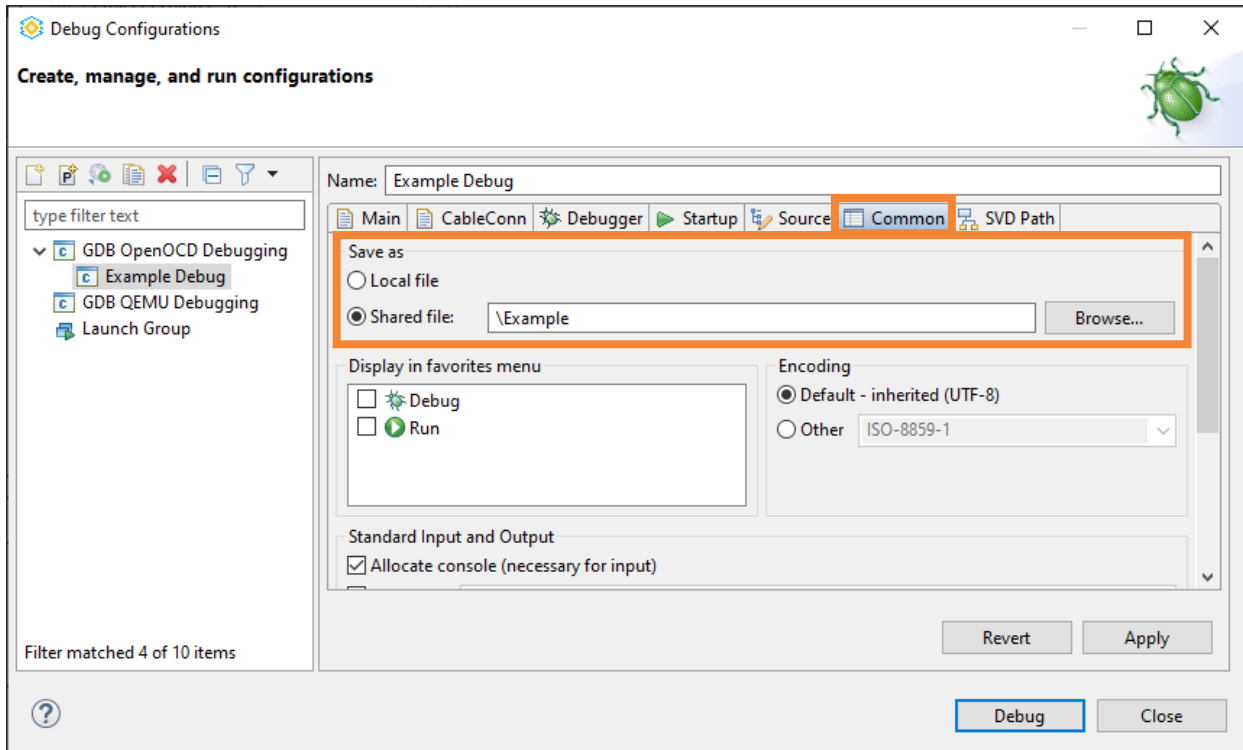

Figure 3.40. Common Tab of Debug Configurations
- (Optional) Select the **Common** tab (Figure 3.40). The **Save as > Local file** option is selected by default. This causes the debug launch configuration to be saved into the workspace.
4. Click the **Debug** button (Figure 3.40).